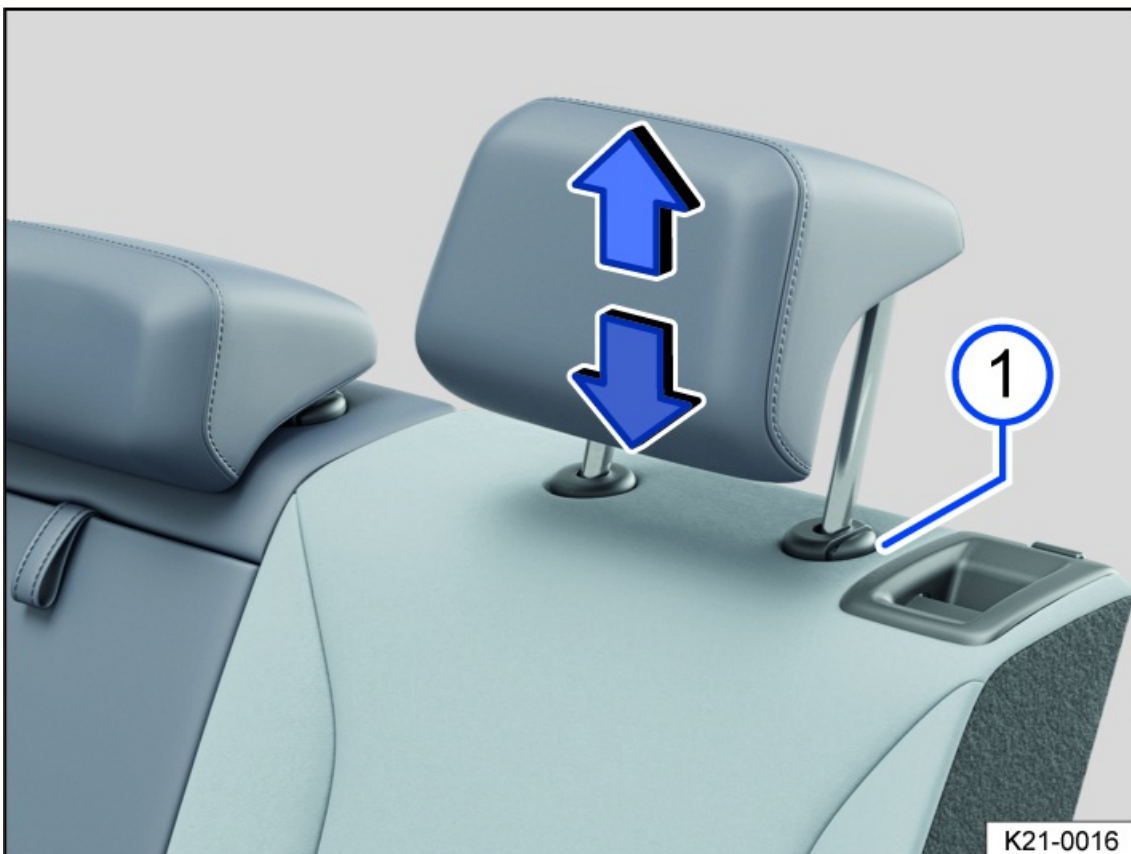

Fig. 66 Adjusting the head restraint on the second-row seats (general example).
1. Push the head restraint upward in the direction of the arrow or slide it downward while pressing the fig. 66 button.